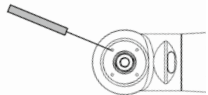

*Fig. 6*
4. Insert spray adapter into chuck and dispense spray for 1 - 2 seconds (Fig. 6).